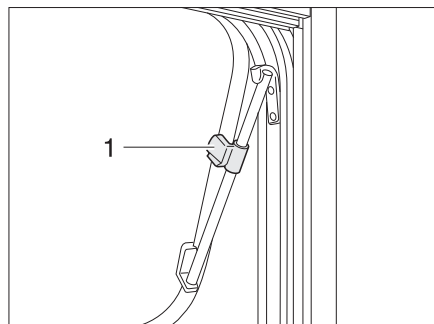

Fig. 68 Hinged window with rotary hinges, open
- Open the hinged window until the required position has been reached and secure in position using the knurled knob (Fig. 68,1).
- Turn the knurled knob (Fig. 68,1) until the latch is released.